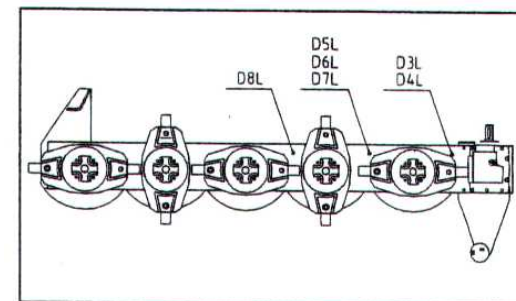

Fig. 48
4) Remove the filling cap and check if the oil reaches the hole (Fig. 48).
Mod. D3L-D4L-D5L: between the gear case and the first disc (Fig. 48).
Mod. D5L-D6L-D7L: between the first and second disc (Fig. 48).